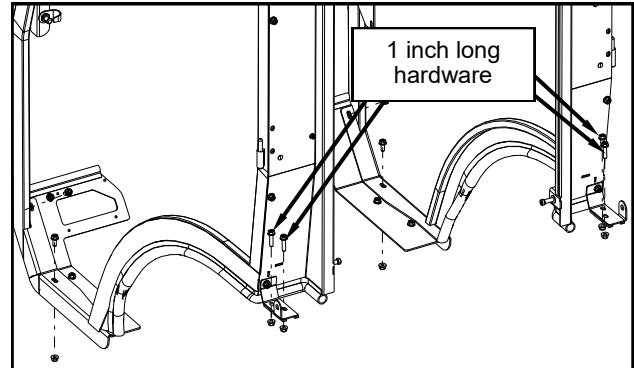

Fig. 7.1 (B2301 or B2601: side frames onto tractor )
**7.1 (B2301 or B2601)** With assistance, place the left side frame on top of the left floorboard mount and the vehicle's left fender. Fasten the side frame to the floorboard mount and then to the vehicle's fender (requires the longer hardware). Repeat step for the right side frame. See fig. 7.1.